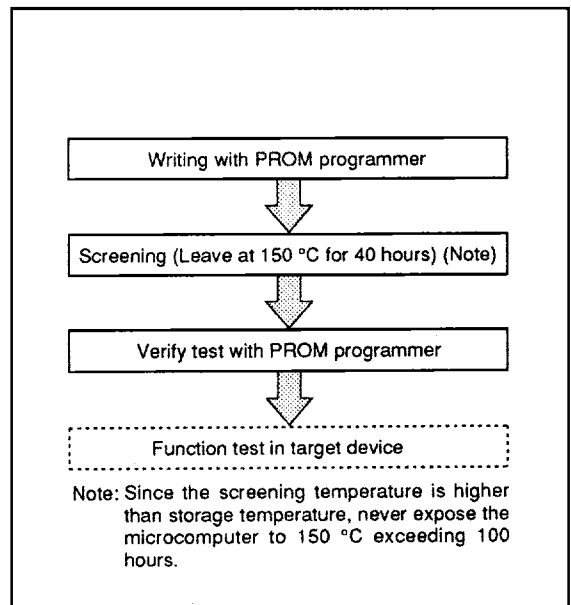

Fig. 55 Flow of writing and test of the product shipped in blank
(2) Notes on handling
- ① Sunlight and fluorescent lamp contain light that can erase written information. Be sure to cover the transparent glass portion with a seal or other similar materials except when erasing.
- ② Mitsubishi Electric corp. provides the seal for covering the transparent glass. Take care that the seal does not touch lead pins.
- ③ Clean the transparent glass before erasing. Fingers' fat and paste disturb the passage of ultraviolet light and may affect badly the erasure capability.
- ④ A high-voltage is used for writing. Take care that overvoltage is not applied. Take care especially at turning on the power.
- ⑤ For the One Time PROM version shipped in blank, Mitsubishi Electric corp. does not perform PROM writing test and screening in the assembly process and following processes. In order to improve reliability after writing, performing writing and test according to the flow shown in Figure 55 before using is recommended (Products shipped in blank: PROM contents is not written in factory when shipped)